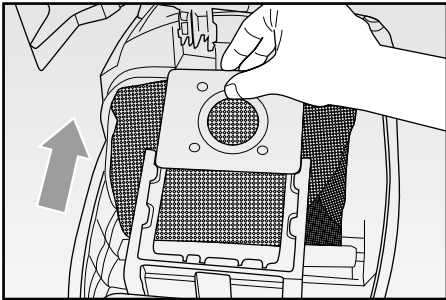

Fig. 9
- Take out the bag, being careful not to tear it; slide the stiff cardboard section (or plastic section on fabric bags) along the special guides (FIG. 9). Throw away the paper dust bag or empty the fabric bag and wash it in water and a mild detergent, if necessary.
- Remove the bag (FIG. 9).